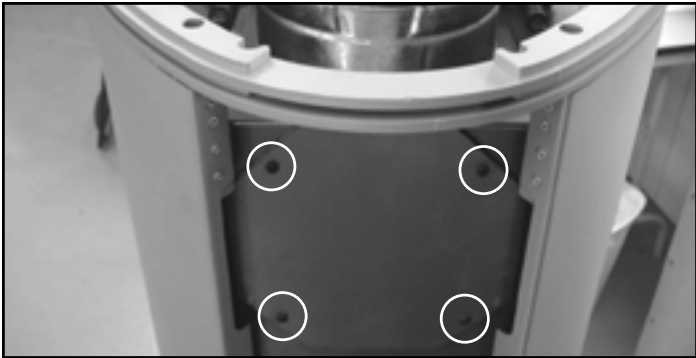

Figure 8.9
- Remove the four screws from the cover plate on rear of appliance. Retain cover plate, gasket and screws. (see Figure 8.9).